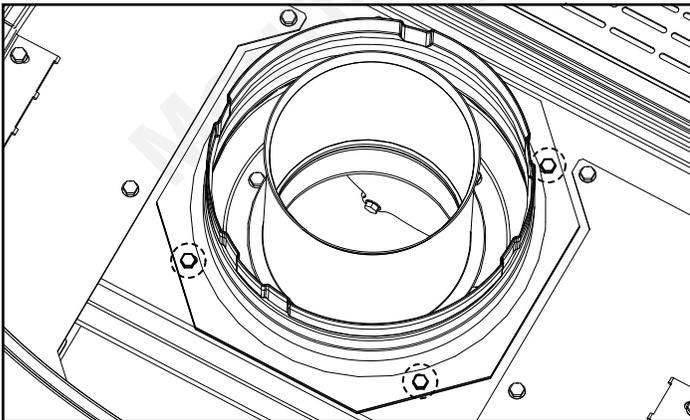
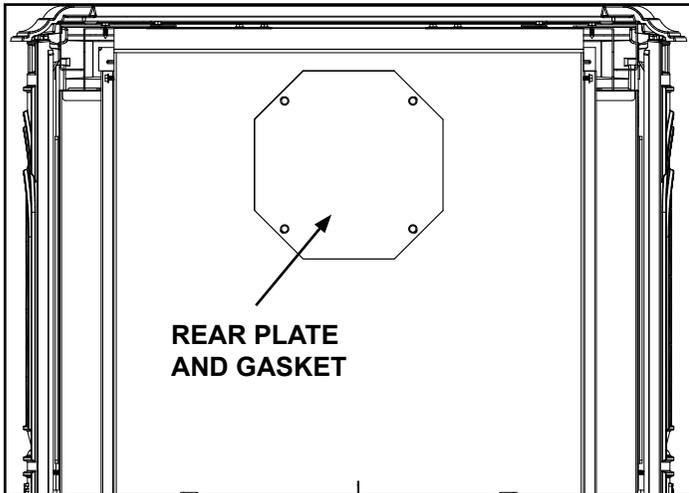
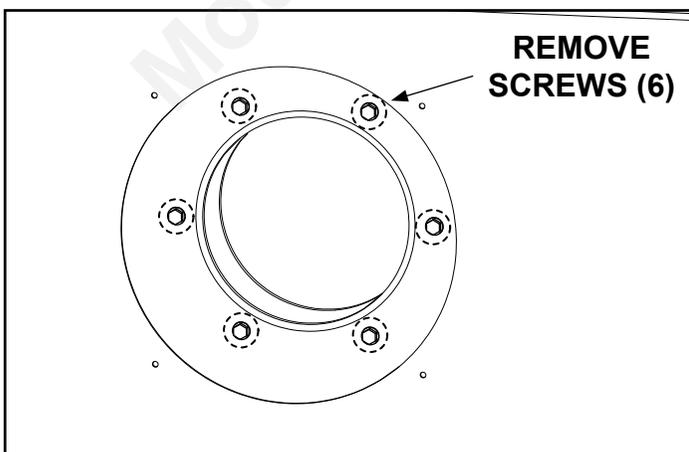
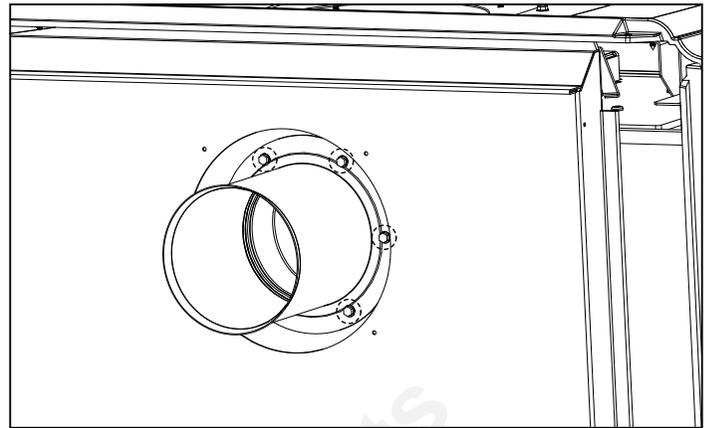

Figure 6.2
Figure 6.5
Figure 6.7 Remove Screws Under Rear Access Plate
Figure 6.8 Attach inner collar adapter to rear flue vent.
2. Remove starting collar and gasket by removing 4 screws. See Figure 6.2. Save the screws. (If gasket breaks, apply high-temp sealant to bottom of collar before installing as shown in Figure 6.8.)
- Place rear access plate and gasket over top vent and attach with the four screws removed in Figure 6.2.
- Remove six screws under the rear access plate removed in Figure 6.5. See Figure 6.7. Install inner pipe adapter and new gasket (included with kit) using six screws. See Figure 6.8.
- Install starting collar with gasket or high-temp sealant to rear vent opening. Attach with screws removed in Figure 6.5.